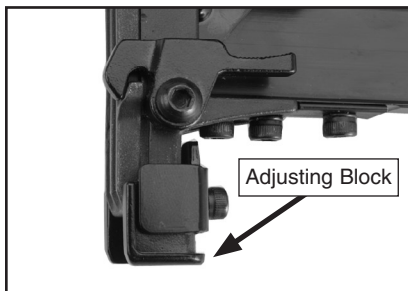

Figure 8. Adjusting block down.
3. Move the adjusting block (**Figure 8**) up or down to increase or decrease staple penetration.
- If you want to decrease the staple depth, then move the adjusting block down, away from the nose as shown in **Figure 8**.